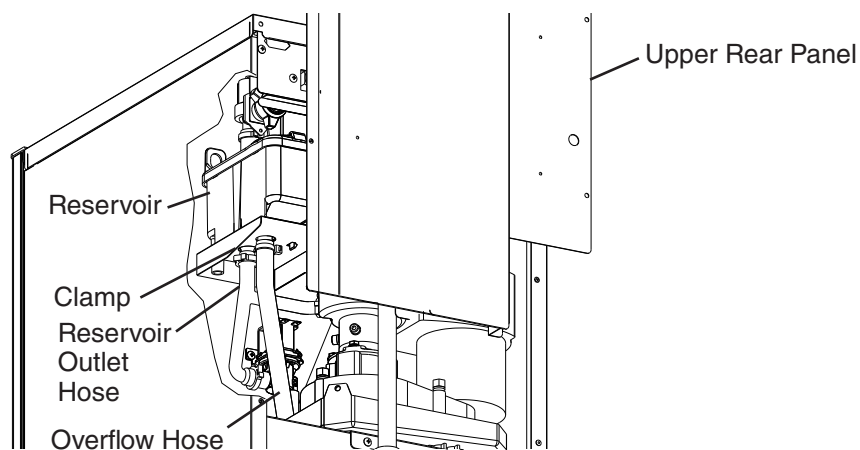

Fig. 30
- 11) Remove the screws securing the upper rear panel, then remove it. See Fig. 30.